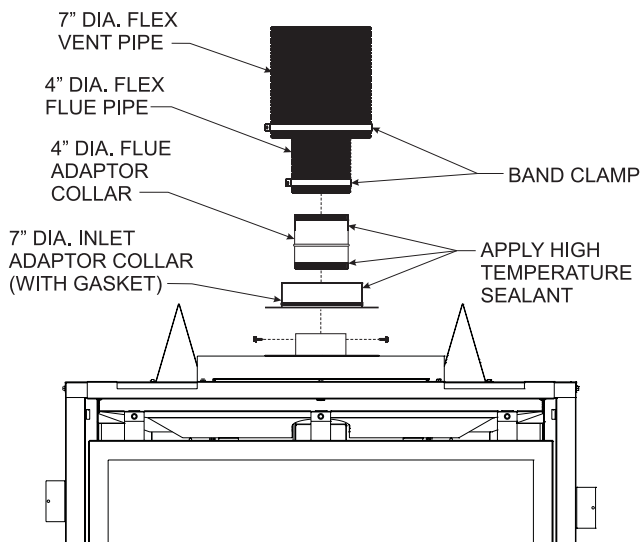

Figure 64
17. To attach the vent connections at the fireplace, be sure the 7 inch diameter adapter collar has been installed per step 3. Apply a bead of silicone sealant to the 4 inch diameter flex connector, then slide the flex pipe adapter collar into the fireplace flue collar and secure by installing a minimum of two screws through the flue collar and into the adapter. **See Figure 64.**
18. Apply sealant to the 7 inch diameter adapter collar, slide outer flex vent over the collar, then secure with a 7 inch diameter band clamp. **See Figure 64.**